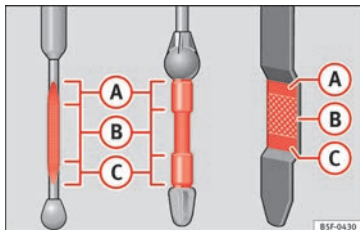

Fig. 111 Engine oil dipsticks.
» Fig. 111.
- The oil level must never exceed area **A** » Fig. 111. Risk of damage to the exhaust system!